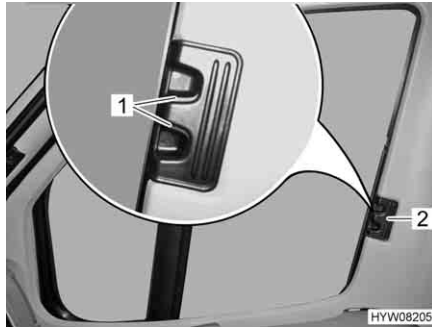

Fig. 40 Roman shade for driver's and passenger's window
- Use handle (Fig. 40,2) to push in the Roman shades for the driver's and passenger's window as far as possible.
- Allow the release handles (Fig. 40,1) to engage.